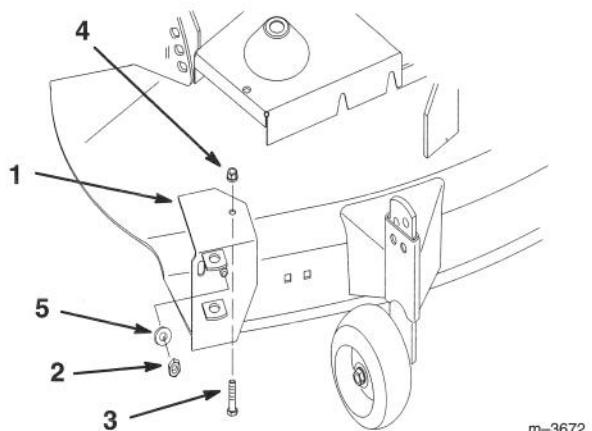

Figure 33
1. Remove the pivot support and pivot bracket from the mower (Fig. 33).